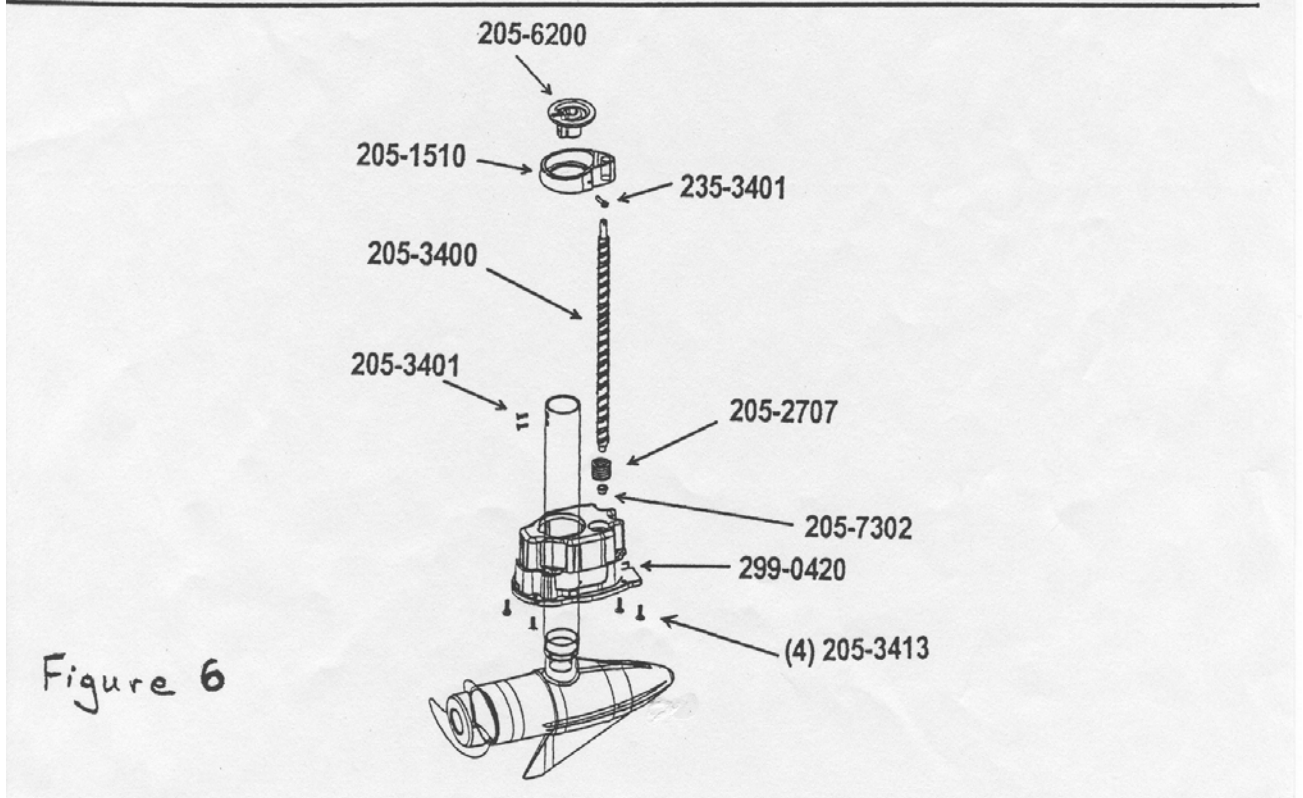

Figure 6
- D.** If it was determined in **Case II Step 3B-2** that the lift yoke (P/N 2051510) (**see figure 6, page 10-8**) is broken or stripped further disassembly is required. **NOTE:** the Vantage motor uses a retractable tape spring to hold/control the two-conductor wire that goes to the motor lower